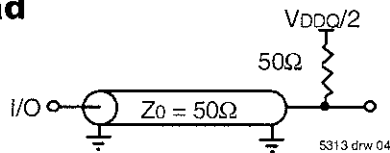

Figure 1. AC Test Load
AC Test Load	See Figure 1
- 4 These parameters are guaranteed with the AC load (Figure 1) by device characterization. They are not production tested.
- 2 AC Test Load (Fig. 1) on external output signals